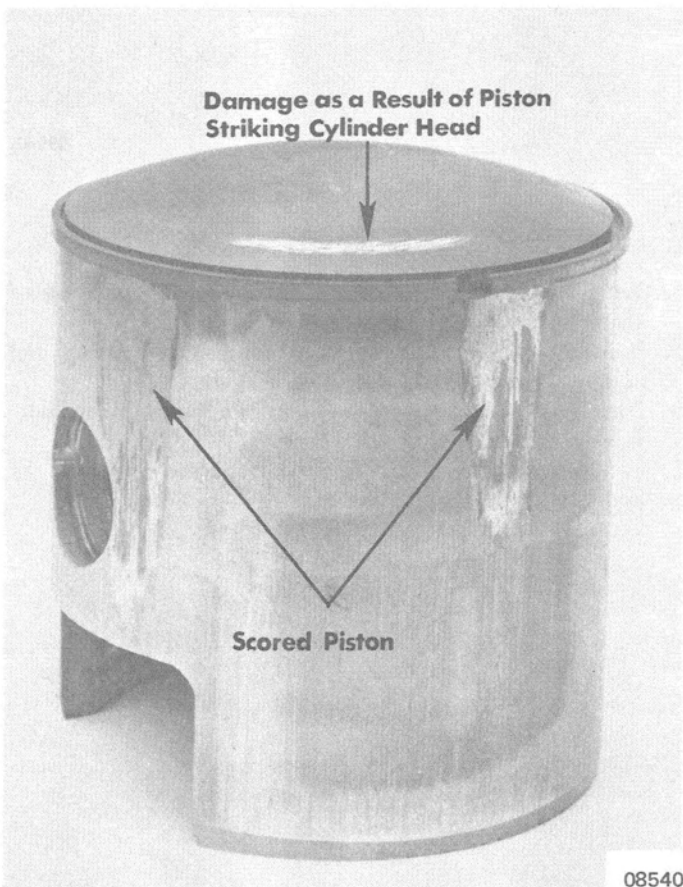

Figure 14. Damaged Piston
3. Inspect piston domes for damage (as a result of pistons striking cylinder heads). (Figure 14)
5. Remove crankshaft end bearing snap ring from each end of crankcase. (Figure 14)